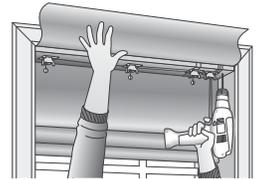
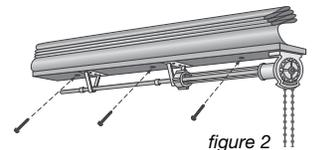

figure 1
figure 2
4. Secure shade in place by anchoring directly into the window casing using the #8 x 1 1/2" screws provided (figure 1). Use the 1/16" drill bit to drill pilot installation holes in the window frame if desired. When the method of shade operation is a clutch mechanism or motor, it is necessary to install the screws at an angle to prevent interference from the lifting mechanism (figure 2).